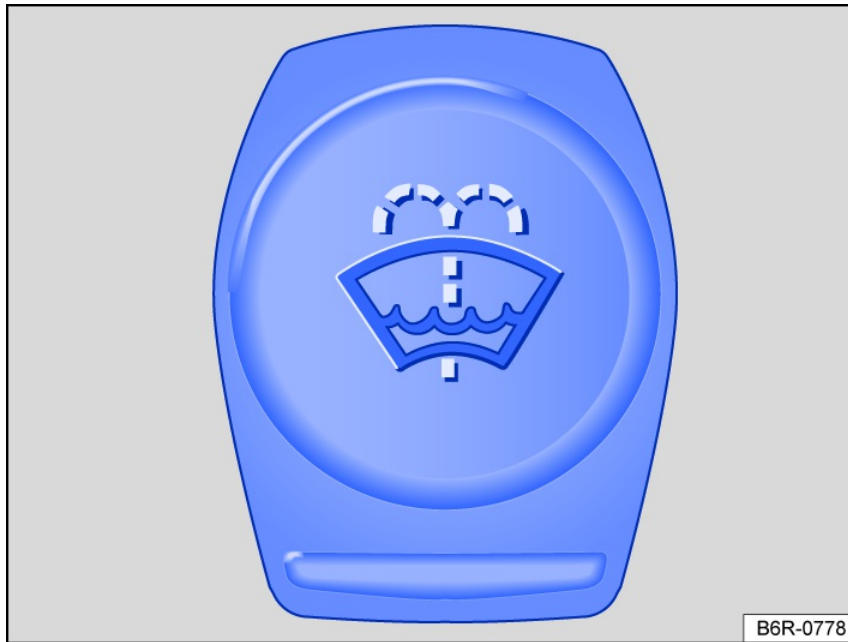

Fig. 196 In the engine compartment: cap on the washer fluid reservoir.
- The washer fluid reservoir is identified with the symbol on the cap *fig. 196*.